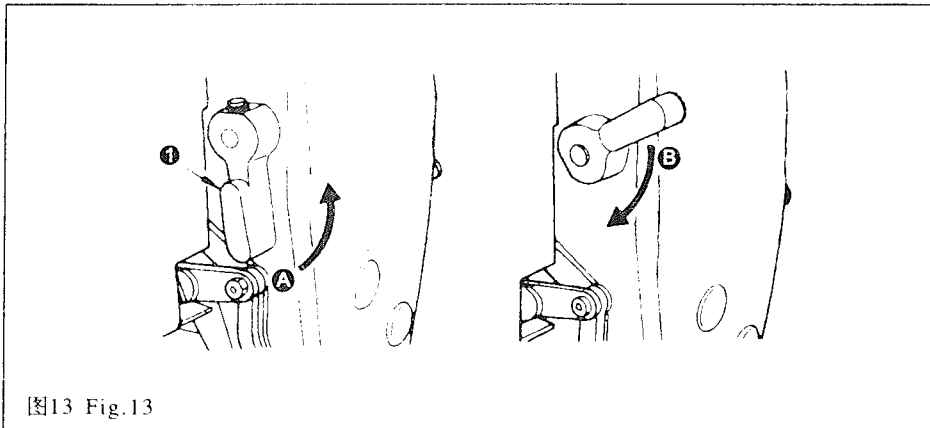

图13 Fig.13
9. 压脚扳手(图13)
9. HAND LIFTER (Fig.13)